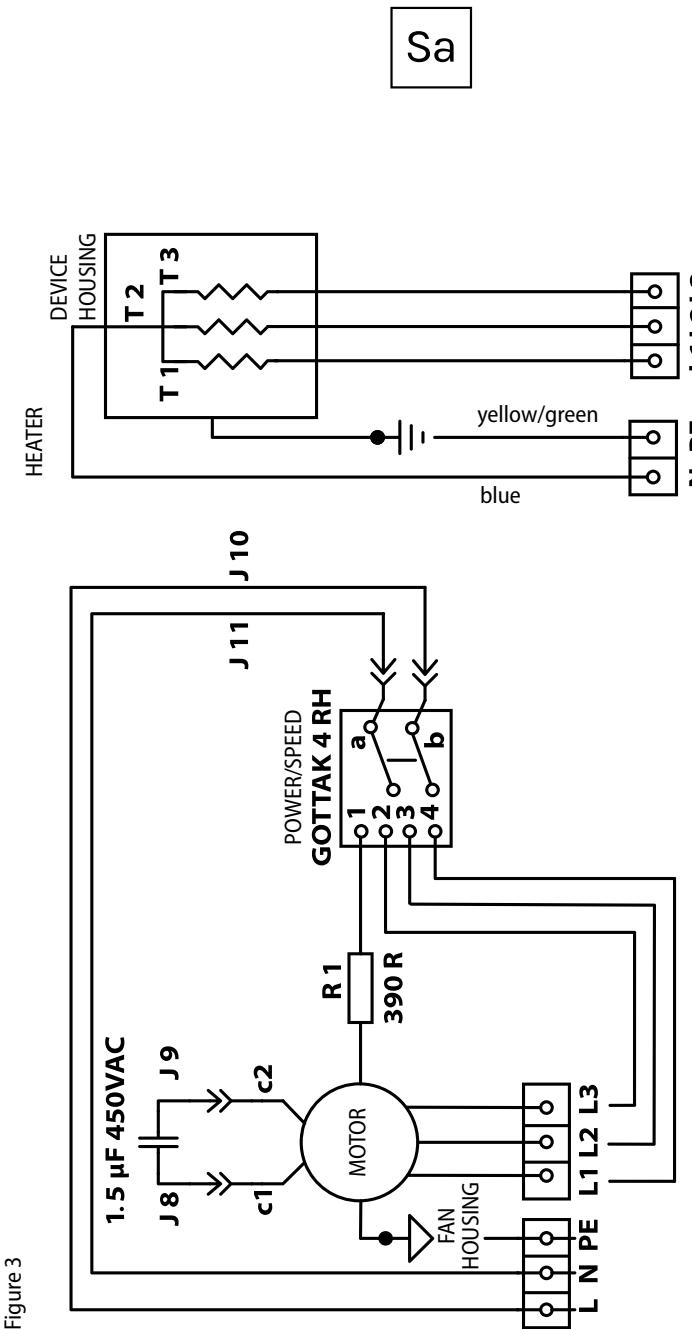

Figure 3
- The internal connections of the device are made by means of screw terminals according to Figure 3 (see page 31) and Table 1 (see pages 10–11) in this manual.
- Protective earthing (PE) must be connected to the connection terminal of the device, with the cross-sectional area of the cable being at least 2.5 mm^2 .
- If you want to connect the air circulation fan of the device separately from the heater control device, the fan must be connected via a residual-current device. In this case, the protective earthing (PE) of the fan supply input terminal of the sauna climate device must not be brought into contact with the protective earthing of the heater supply input terminal. In this case, use earthed cables of at least 1.5 mm^2 to power the fan.